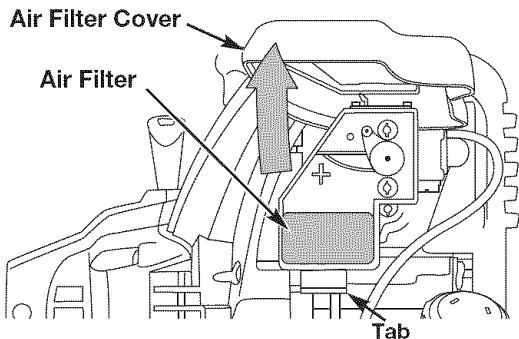

Fig. 24
1. Open the air filter cover. Push the tab on the under side of the cover inward. Then pull the air filter cover out and up. (Fig. 24).
6. Replace the filter (Fig. 24).